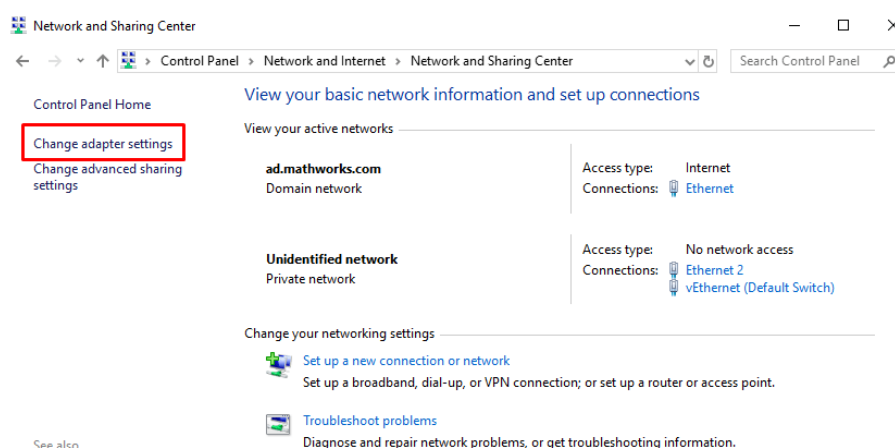

Figure A.3: Changing the adapter
Step 3 Click on the “Change adapter settings” option (Figure A.3).